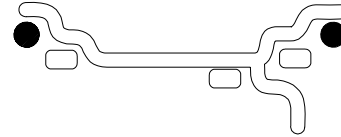

Figure 19
**A. DYNAMIC** (two planes), suggested for all steel rims. In this case the wheel weights must be clipped onto the rim edges. This function is selected as a default and the LEDs corresponding to the wheel weight location are lit on (Figure 19)